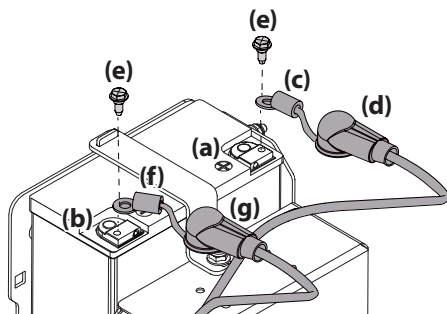

Figure 1
NOTE: The positive battery terminal is marked POS. (+) (a). The negative battery terminal is marked NEG. (-) (b). See Figure 1.
NOTE: If the positive battery cable (c) is already attached, skip ahead to Step 4. See Figure 1.
2. Slide the red boot (d) from the positive battery terminal (a) and attach the red cable (c) with the vertical mount bolt (e). See Figure 1.
3. Position the red boot (d) over the positive battery terminal (a) to insulate it and help protect it from corrosion. See Figure 1.
4. Slide the black boot (g) from the negative battery terminal (b) and attach the black cable (f) to the negative battery terminal (b) with the vertical mount bolt (e). See Figure 1.
5. Position the black boot (g) over the negative battery terminal (b) to insulate it and help protect it from corrosion. See Figure 1.